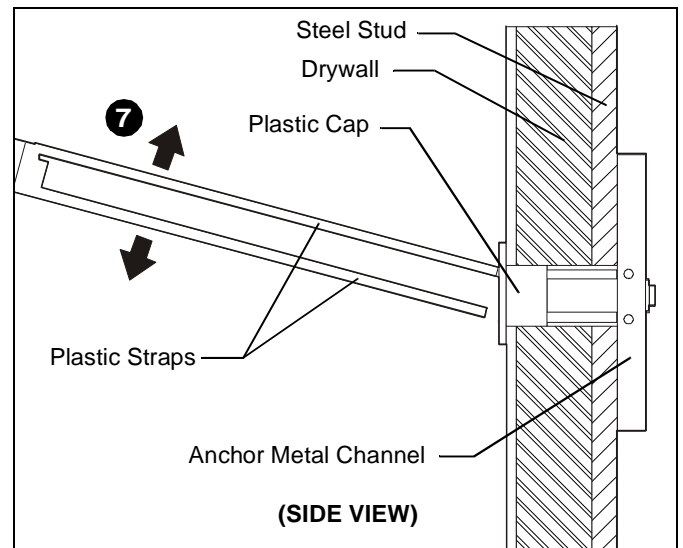

Figure 13
7. Snap off plastic straps on anchor at wall by pushing side to side, snapping off straps level with flange of plastic cap. (See Figure 13)